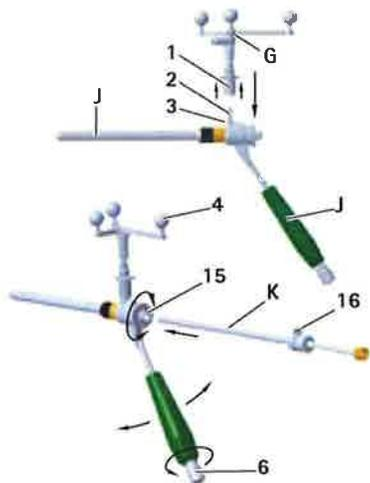

Fig. 10 Mounting the Aesculap star unit onto the S4C guide sleeve; inserting the S4C drill guide
- To ensure the camera has an unrestricted view of the reflective marker spheres, unscrew knob 6 on the S4C handle of the S4C guide sleeve J and turn the Aesculap star unit G to the desired position, see Fig. 10.
The inner guide sleeve engages on the inner sleeve and can still be rotated, see Fig. 10.